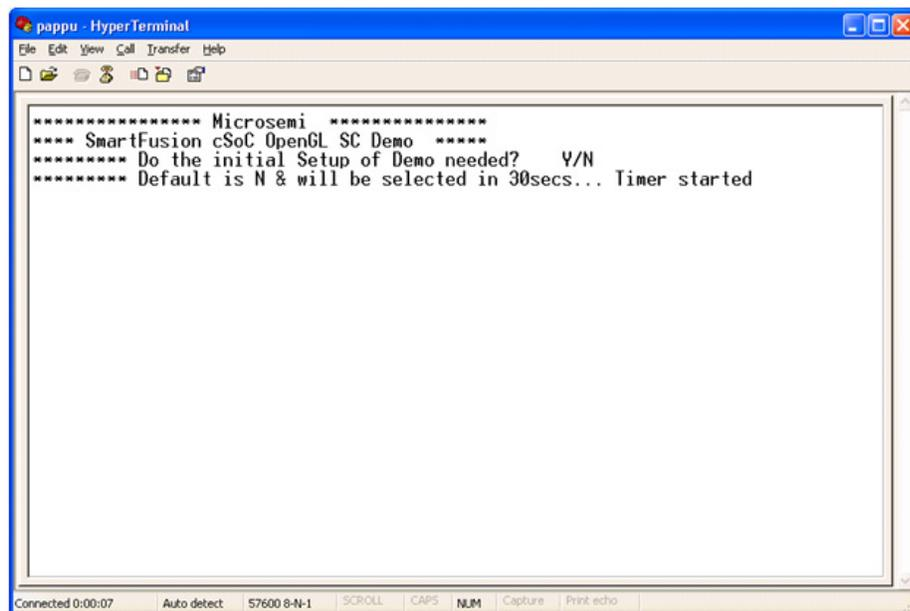

Figure 4-3 • Demo 1
14. Text will be displayed in the HyperTerminal window, as shown in Figure 4-3.